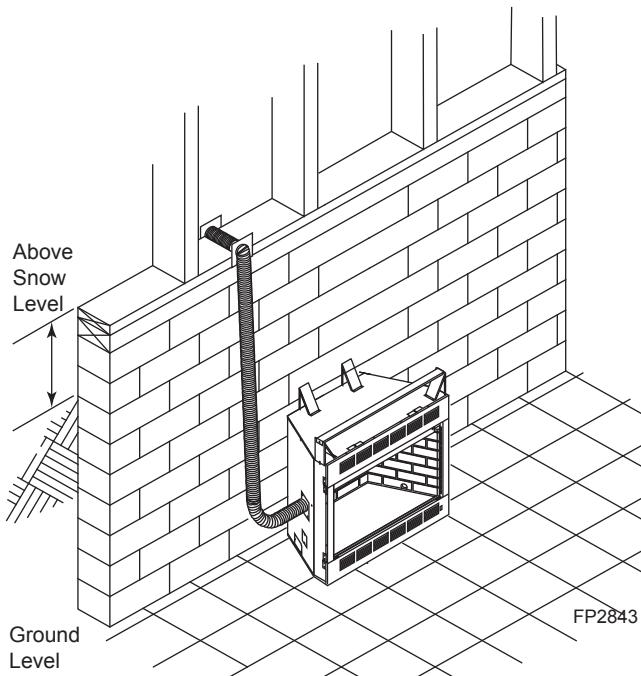

Figure 12 -
6. Avoid extremely long runs and numerous turns in the duct leading from the fireplace to the combustion air assembly. These conditions increase the resistance to the free flow of air through the duct. *Refer to Figures 12 through 15 for methods of installing the outside air for combustion assemblies.*